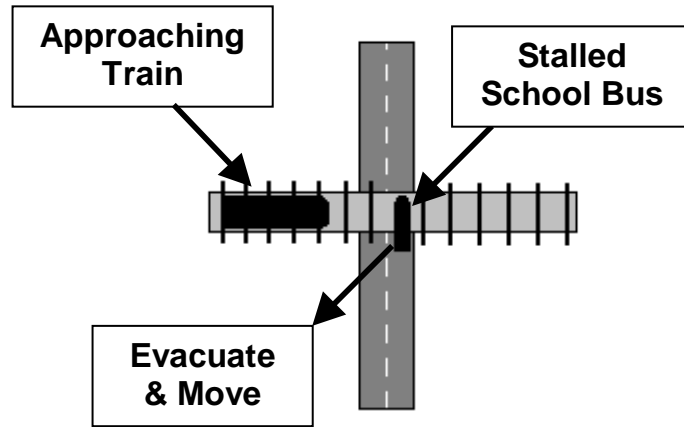

Figure 10-7. Stalled School Bus on Railroad Track.
- Move away from the tracks at an angle, in the direction of the approaching train, to avoid flying debris in the event of a collision (see Figure 10-7).